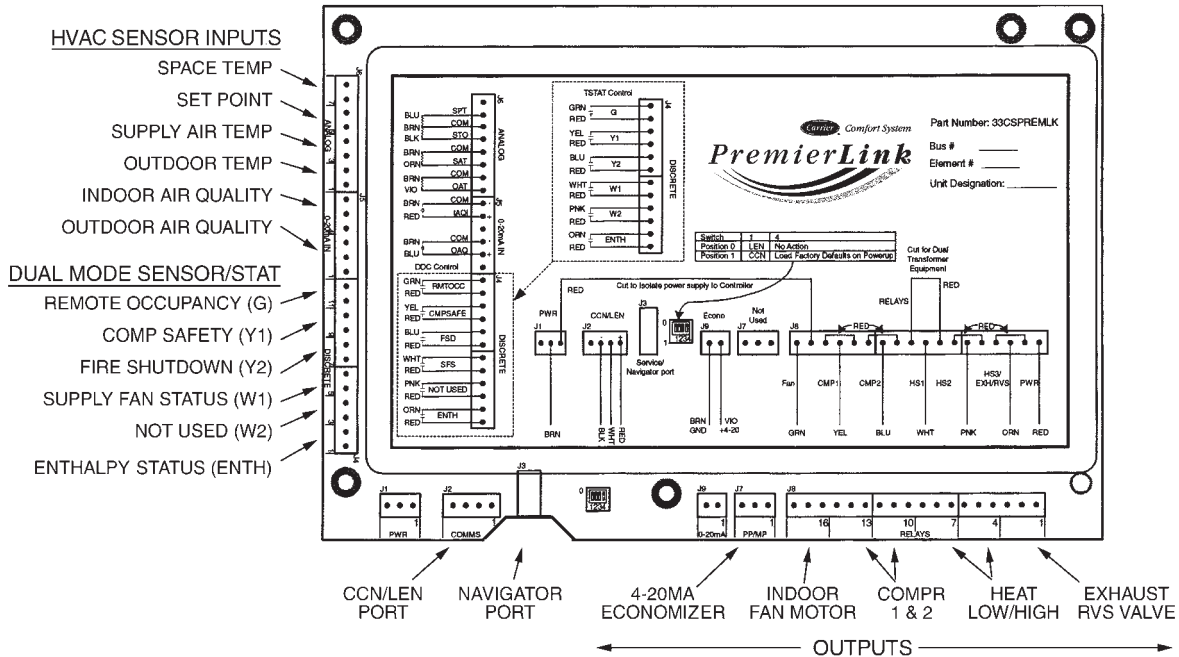
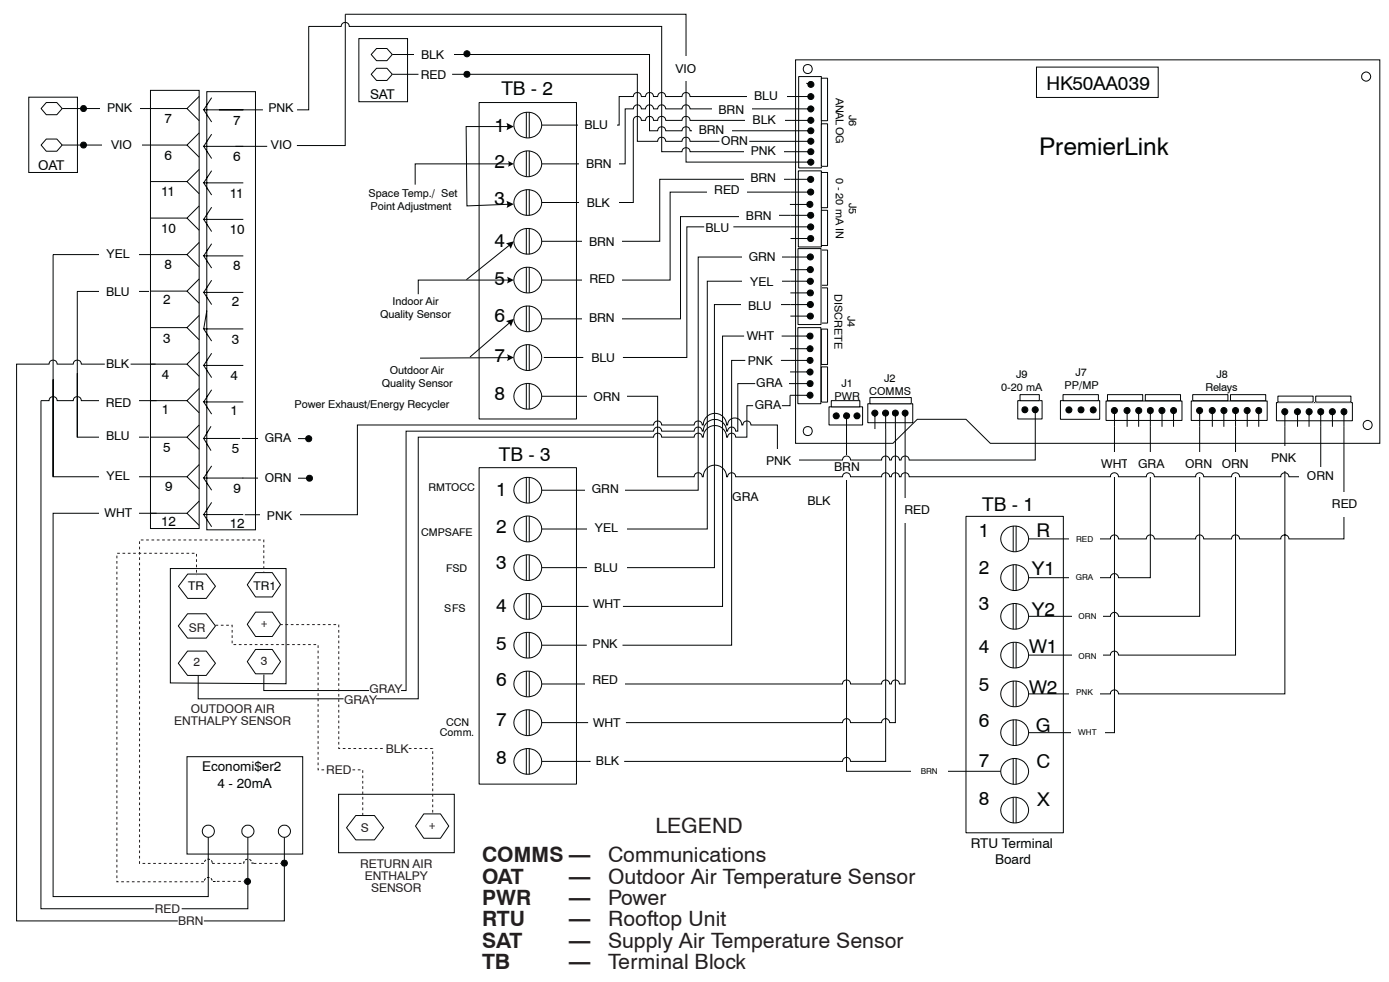
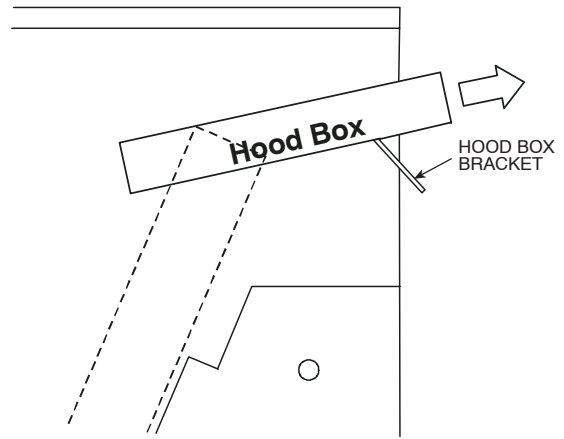

Fig. 22 – PremierLink Controller
Fig. 24 – Typical PremierLink Control Wiring
Fig. 30 – Hood Box Removal
The PremierLink controller (see Fig. 22 and 23) requires the use of a Carrier electronic thermostat or a CCN connection for time broadcast to initiate its internal timeclock. This is necessary for broadcast of time of day functions (occupied/unoccupied). No sensors are supplied with the field-mounted PremierLink control. The factory-installed PremierLink control includes only the supply-air temperature (SAT) sensor and the outdoor air temperature (OAT) sensor as standard. An indoor air quality (CO2) sensor can be added as an option. Refer to Table 5 for sensor usage. Refer to Fig. 24 for PremierLink controller wiring. The PremierLink control may be mounted in the control panel or an area below the control panel.
2. The box with the economizer hood components is shipped in the compartment behind the economizer. The EconoMi\$er IV controller is mounted on top of the EconoMi\$er IV in the position shown in Fig. 24. The optional EconoMi\$er2 with 4 to 20 mA actuator signal control does not include the EconoMi\$er IV controller. To remove the component box from its shipping position, remove the screw holding the hood box bracket to the top of the economizer. Slide the hood box out of the unit. (See Fig. 30.)